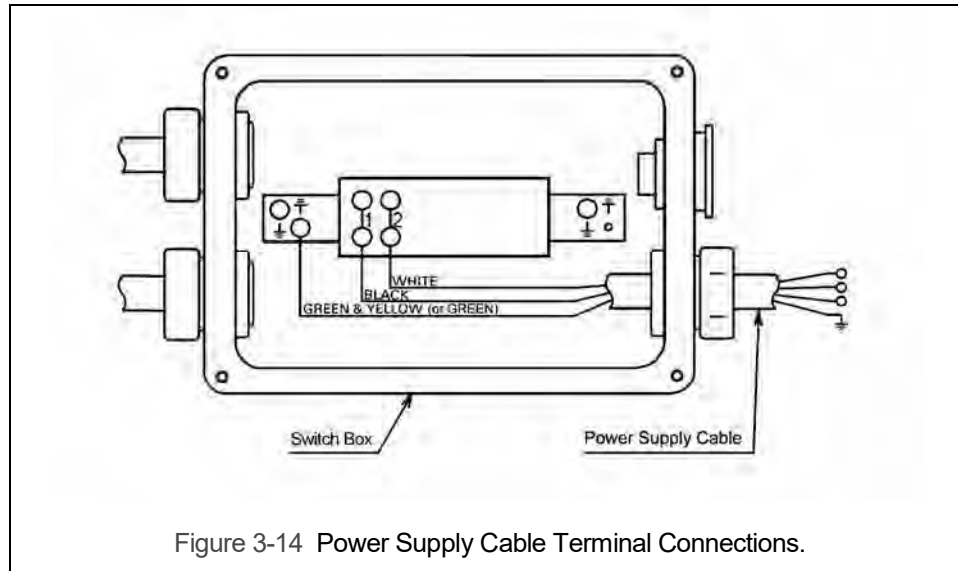

Figure 3-14 Power Supply Cable Terminal Connections.
- 1) Refer to Figure 3-14
- 3) Refer to Figure 3-14 and connect the black and white wires to terminals 1 and 2 on the terminal strip inside the Switch Box. Connect the ground wire (green with yellow stripe or solid green) to the ground terminal next to the terminal strip.